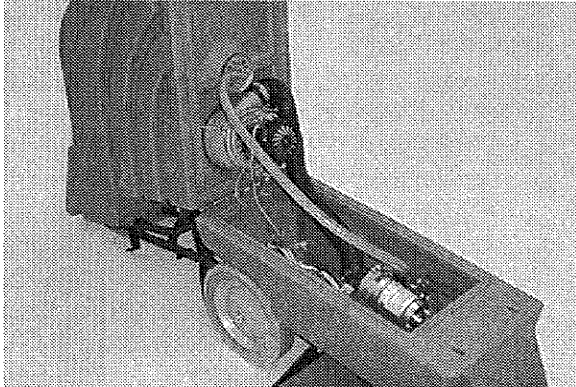

FIG. 12
- Hinge tank backwards away from chassis (Figure 12).